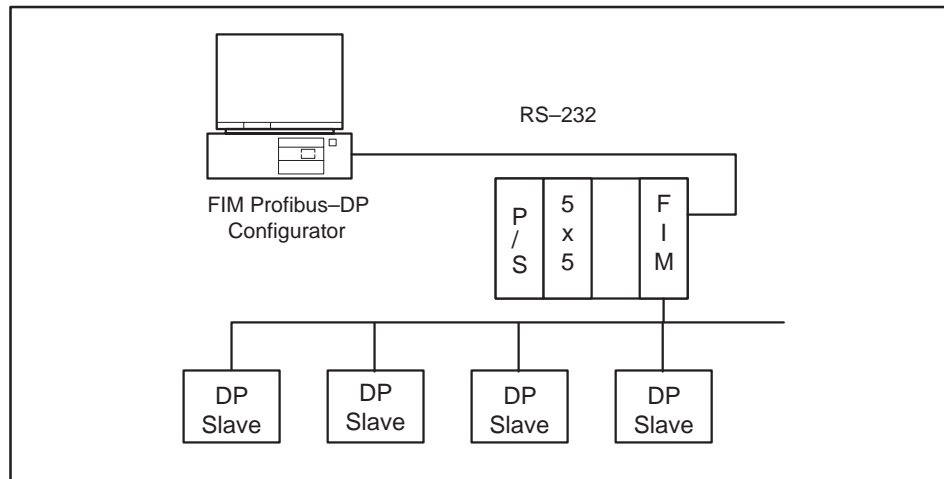

Figure 4-10 Connecting Cable from PC to FIM
4. Connect a cable from the serial port of the computer that has the Configurator software to the RS-232 port of the FIM. See Figure 4-10. A suitable cable may be ordered from Siemens using part number PPX:2601094-8001, which is the standard TISOFT programming cable.